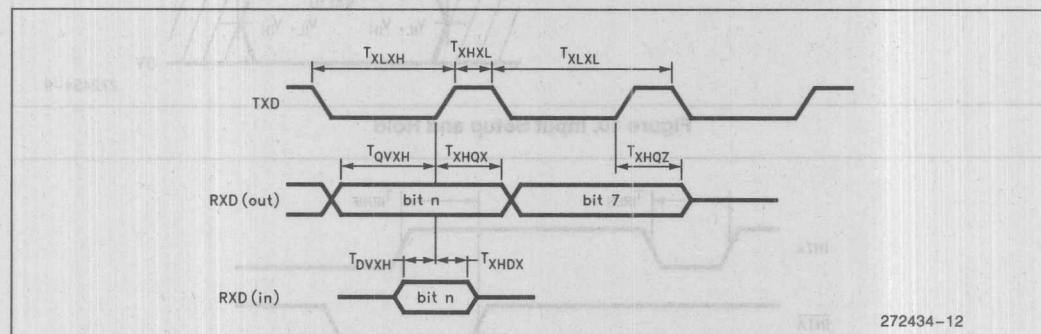

Figure 13. Serial Port Mode 0 Waveform
- See Figure 13 for Waveforms.